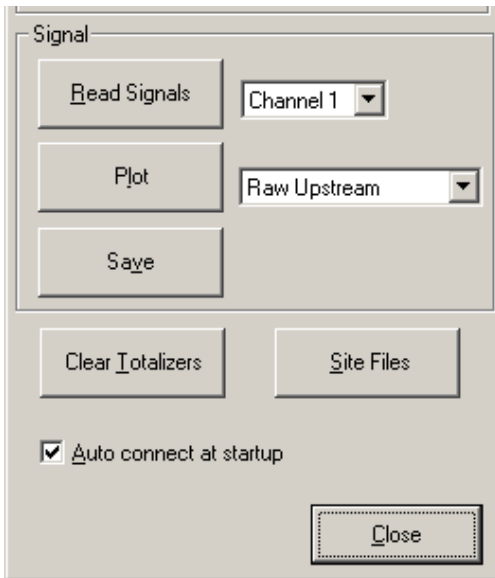

Figure 7: Active signal options
3. To read a signal from the meter, click on the [read signals] button. (If the meter is a multi-channel instrument, open the channel drop-down menu and click on the desired channel.) After a moment, the properties window appears similar to *Figure 7* below.